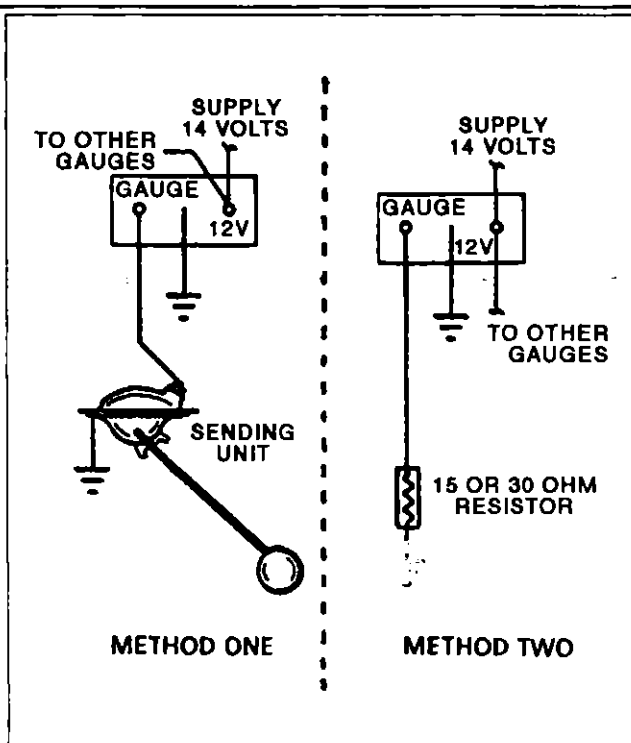

Figure 8-10. Checking Fuel Gauge
- (b) Connect the sender directly to the gauge being checked using Number 16 or larger wire. (Refer to Figure 8-10.)
(a) Connect a 15-ohm resistor to the sender unit terminal of the gauge being checked. (See Figure 8-10.)